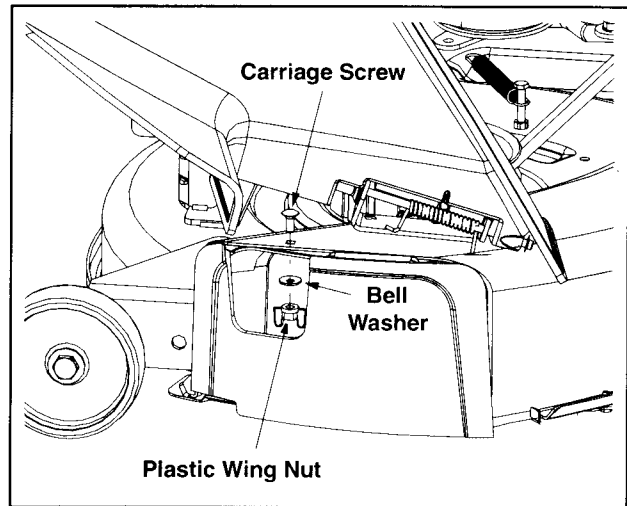

Figure 2
2. Install the mulch plug and secure it in place with the carriage screw, bell washer and plastic wing nut as illustrated in Figure 2.